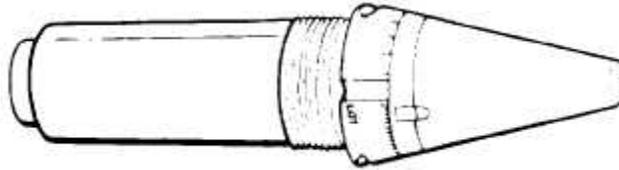

Figure 3-27.5
(4) **and M514B1.** The M514 and M514BI (Figure 3-27.5) fuzes are similar to fuzes discussed in paragraph (1) above and cannot be fired in an "impact action" only mode. They must always be used for proximity action. These fuzes are used with some separate-loading 155-mm projectiles. They are not used with 105-mm howitzer projectiles.
(5) **M514A1.** The M514A1 fuze is similar to proximity fuzes discussed in paragraph (2) above. It also has the impact element armed 2 to 3 seconds outside the muzzle, regardless of the time set for proximity action. These fuzes are used with 155-mm.
b. **M728 (formerly M514A3 or M514A1E1) VT fuze.** The M728 (Figure 3-27.5) proximity fuze can be used with all calibers of field artillery projectiles and weapons. However, it must not be fired with Charge 7 on the 105-mm projectile, except in a combat emergency.